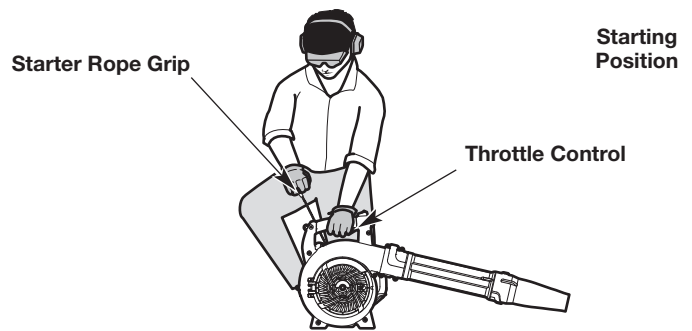

Fig. 13
WARNING: Avoid accidentally starting the unit. To avoid serious injury, the operator and the unit must be in a stable position when pulling the starter rope (Fig. 13).
5. Crouch in the starting position (Fig. 13).
6. Squeeze and hold the throttle control or move the cruise control to the **HI (fast)** position (Fig. 11). Pull the starter rope with a controlled and steady motion **5 times** (Fig. 13).